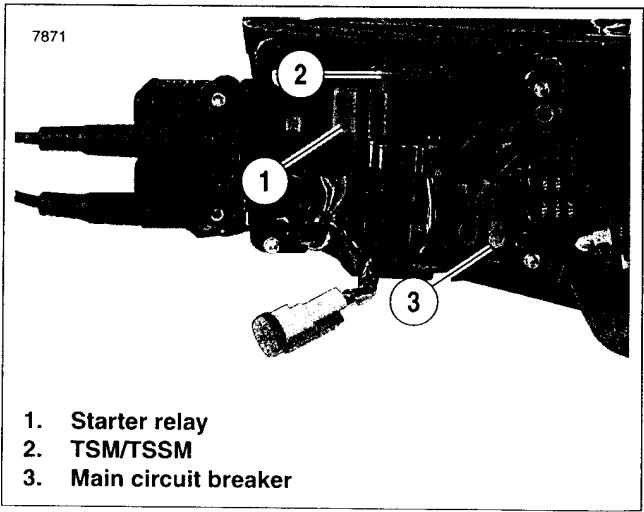

Figure 8-4. Electrical Panel Features
5. See Figure 8-4. This level of removal gives access to the fuses, data link, starter relay (1), TSM/TSSM (2) and main circuit breaker (3).